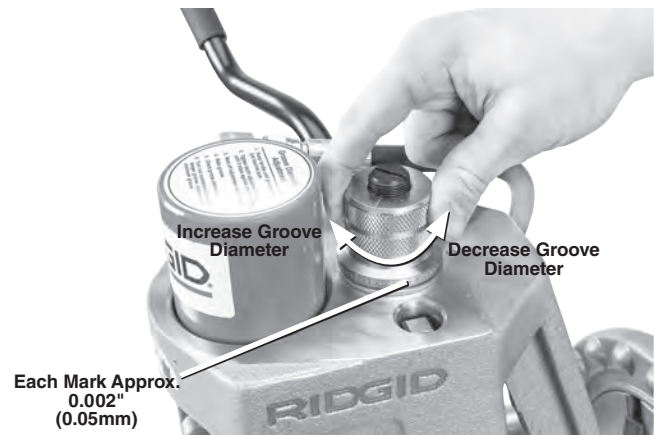

Figure 13 – Depth Adjustment Nut Setting
4. Back the depth adjustment nut off one turn (*Figure 13*).
6. Inspect/measure the test groove. If the groove diameter is not in specification, the depth adjustment nut must be repositioned to give the correct groove diameter. See *Figure 13*.